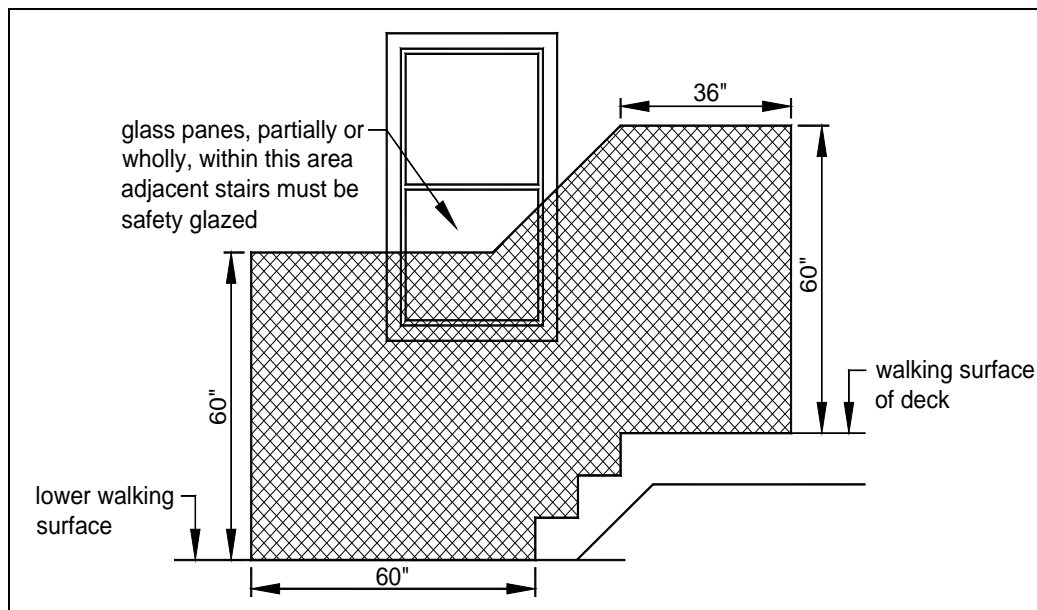

FIGURE 42: SAFETY GLAZING AREA AT STAIRS
- Adjacent stairway: individual panes partially or wholly located in the area shown in FIGURE 42.